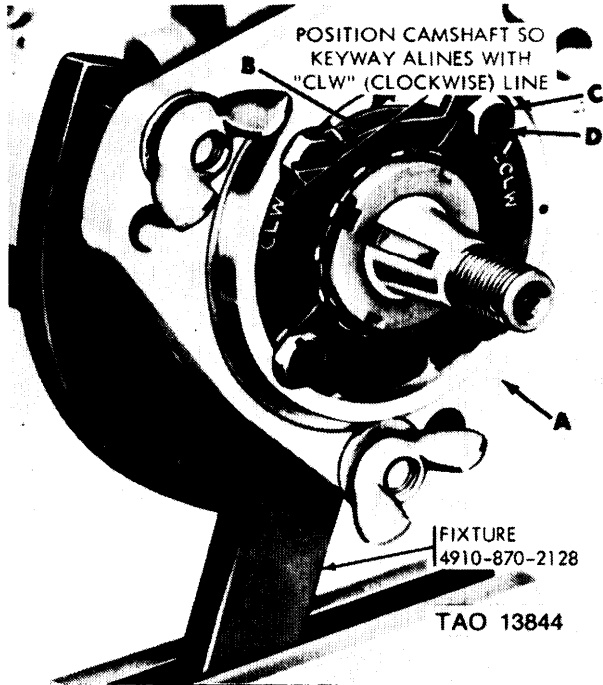

Figure 3-112. Installing bearing retaining plate using fixture.
(2) Refer to figure 3-112. Install fixture — 4910-870-2128 on injection pump housing (A) and install fixture in a vise. Position bearing retaining plate (B) so CLW (clockwise) line is as shown, Install four lockwashers (C) and machine screws (D). Tighten screws and bend tabs of lockwashers over screw heads to secure screws.